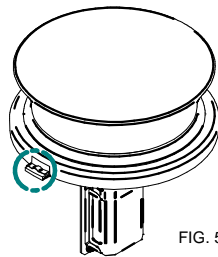

FIG. 5-2
2. Install clips into the Slipfitter cap tabs per FIG 5-2. Do not place backwards.